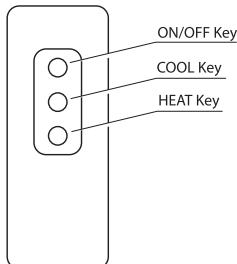
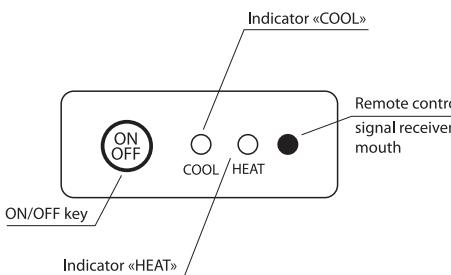

Figure 2. Infrared remote control.
Figure 3a. Air Curtain control board of RM-1206S-D/Y-3(H), RM-1206S-3D/Y-3(H) models.
5.3.1 Air Curtain is controlled by infrared remote control (Fig.2) or ON/OFF key on the front panel of Air Curtain (Fig. 3a, 3b)
5.3.2.1 Infrared remote control mode (see Fig.2.).
5.3.4.1 Infrared remote control mode (Fig.2.).